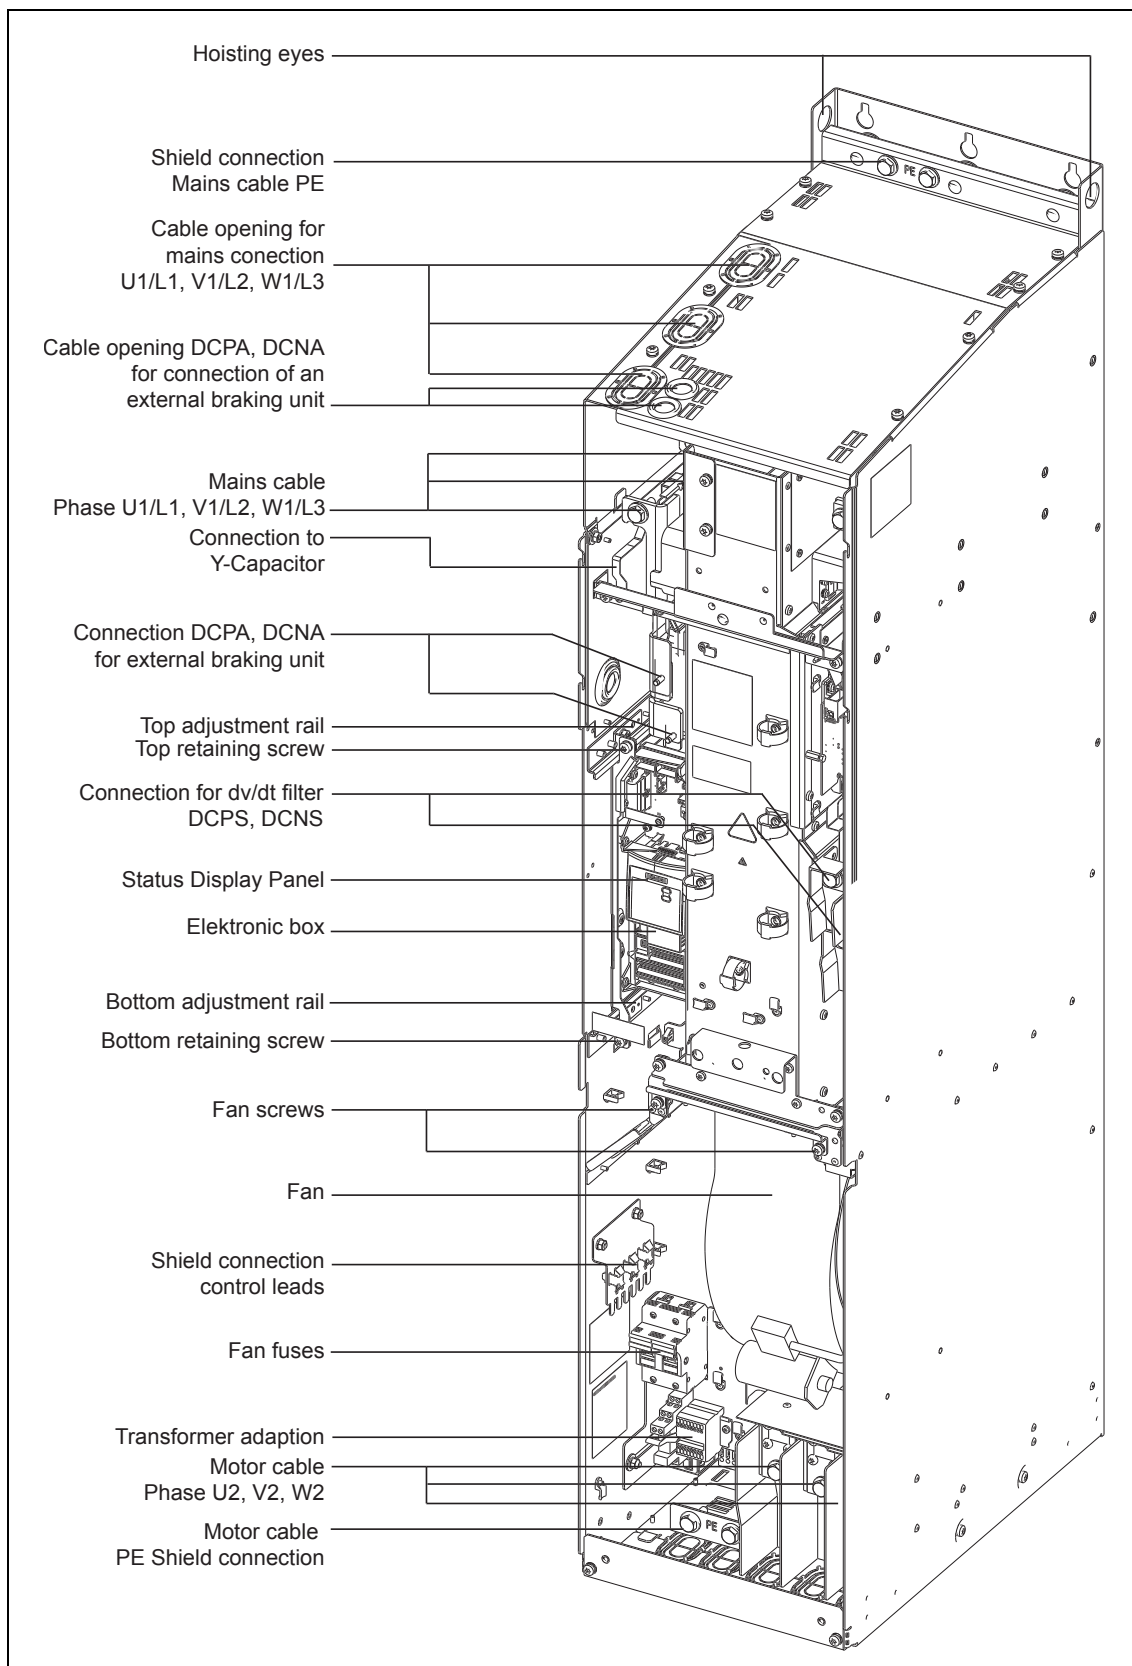

Fig. 2-8 Connection overview for Frame Size GX
- Connection overview for Frame Size GX (Fig. 2-8)